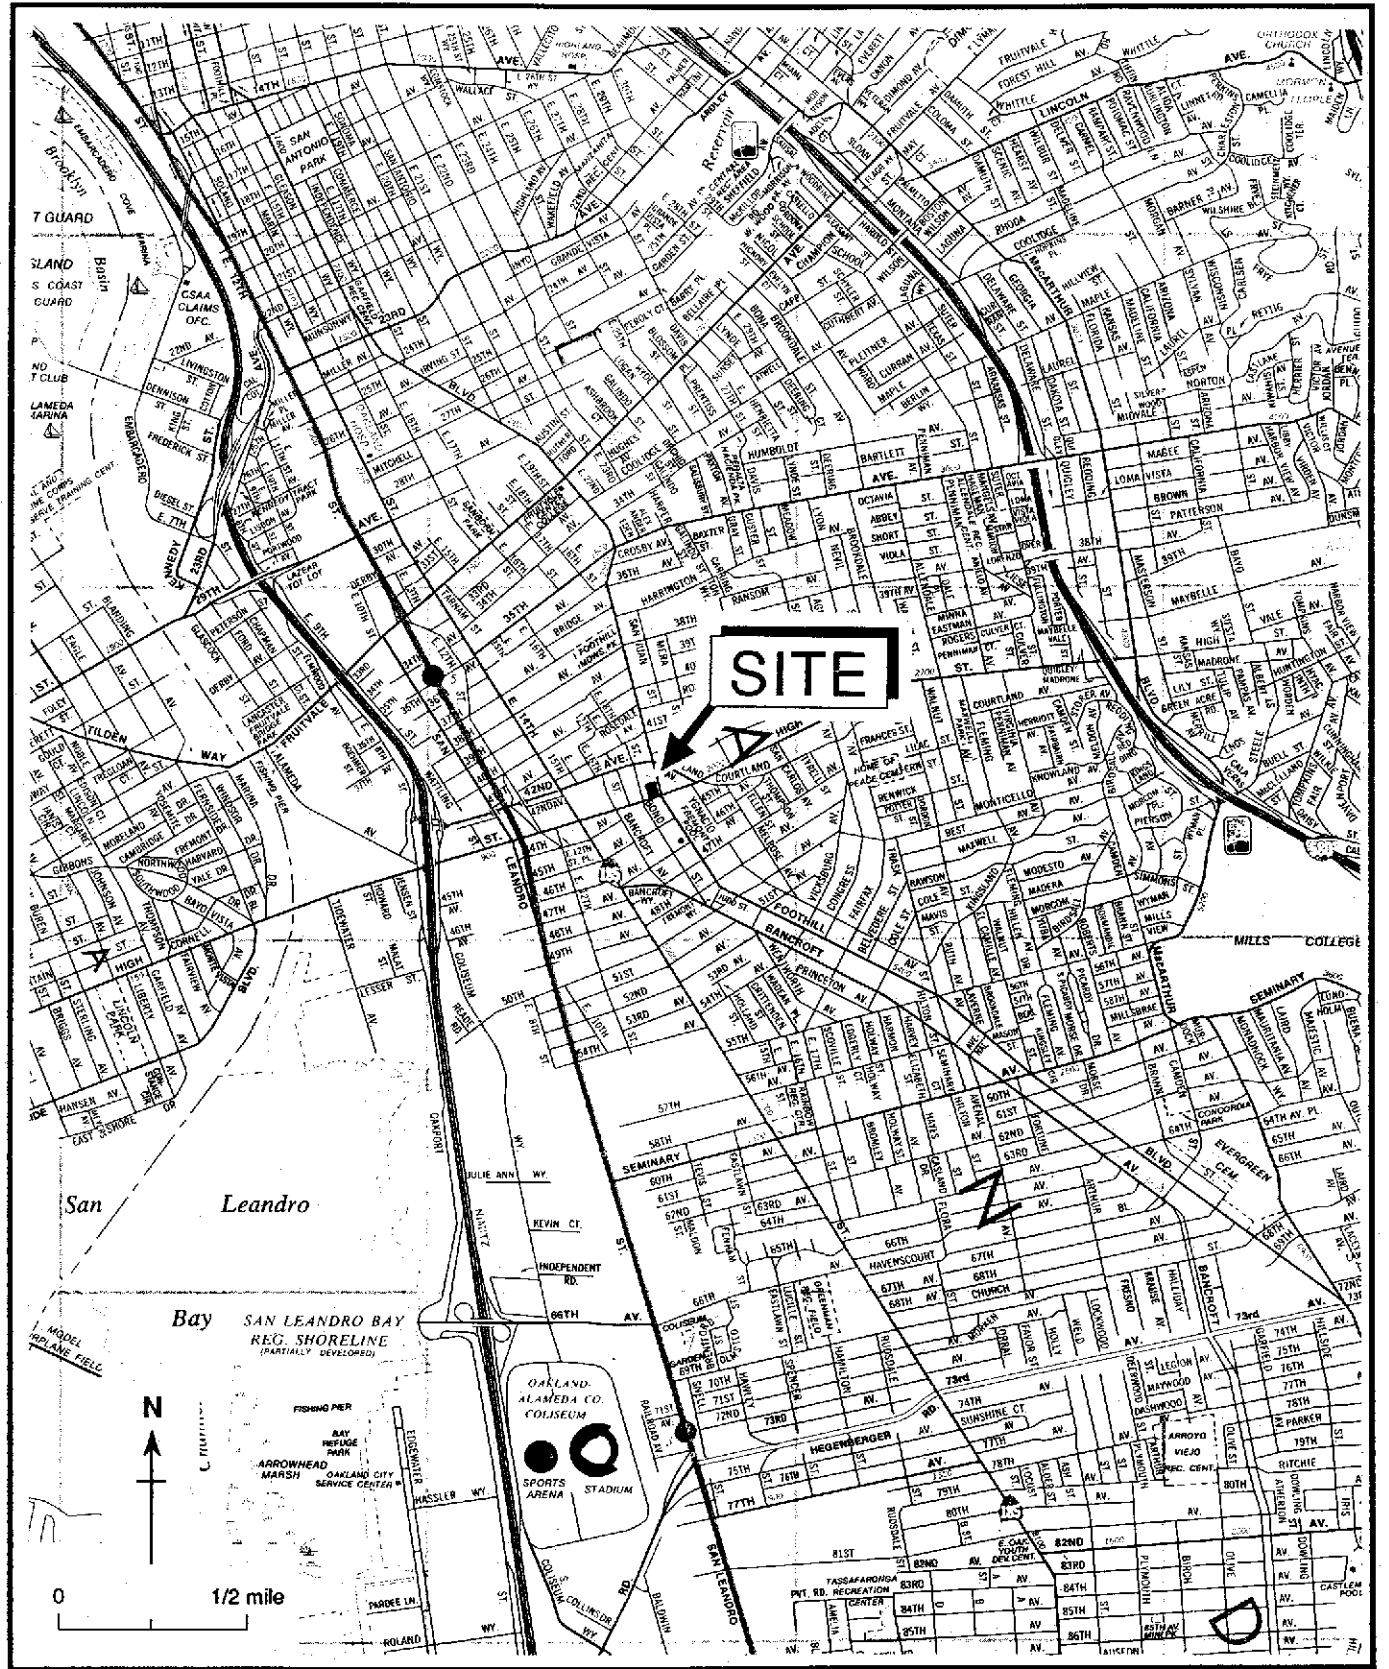

Figure 1. Site Location Map - Chevron Service Station #9-0076, 4265 Foothill Boulevard, Oakland, California
As you requested, Weiss Associates (WA) is providing this Ground Water Monitoring Report for the site referenced above (Figure 1). WA sampled the ground water monitoring wells (Figure 2) on December 20, 1991, in accordance with the requirements and procedures of the California Regional Water Quality Control Board - San Francisco Bay Region and local regulatory agencies.